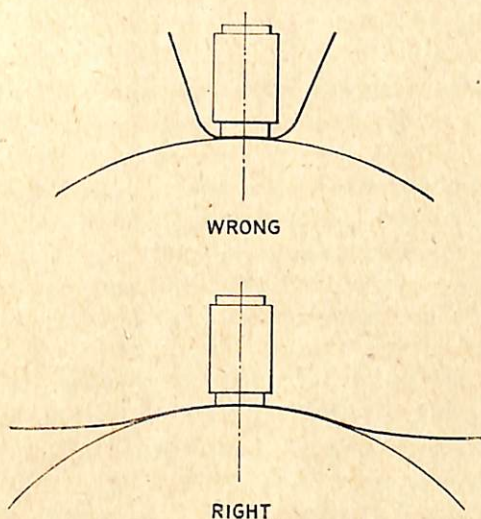

Fig. 8.—Method of bedding-in brushes to avoid rounding edges of brush
3. BEDDING-IN. Brushes are sold with either flat ends or, in the case of those specially produced for a particular machine, with the ends roughly shaped to the correct radius. In either case, they must be carefully bedded to the commutator surface. This is done with a piece of fine glasspaper between brush and commutator, pulled backwards and forwards until the operation is almost complete. The final bedding should be done *one way only* (in the direction of rotation). Care should be taken to use a long strip, and keep it close to the commutator (see fig. 8), to avoid rounding the edges of the brush. An exception to the general rule that brush edges must not be rounded is made in the case of reaction brushes, when the leading edge should be brought to a slight radius, to avoid chattering due to a sharp edge catching in the commutator slots where the mica is undercut. Spring pressures should be increased to the maximum for bedding in.